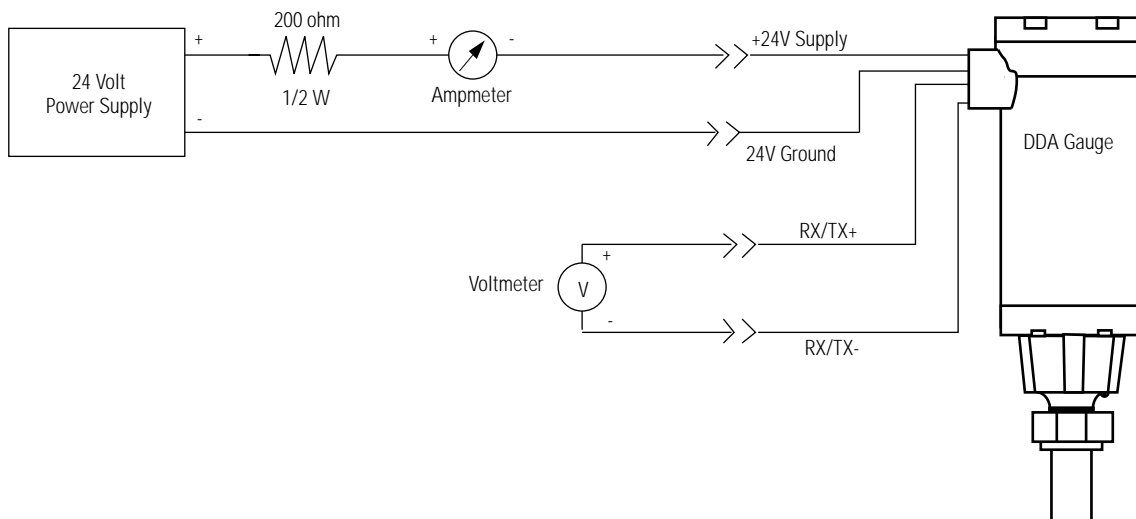

Figure 9.4 Test Configuration
1. Connect the 24 volt power supply, resistor, ammeter, voltmeter, and gauge as shown in figure 9.4.